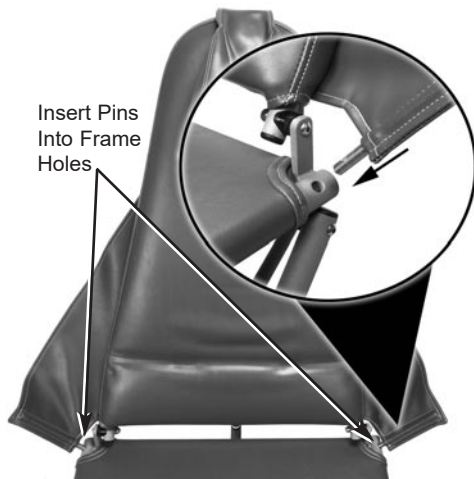

Figure 4 - Arm Sling Pin Insertion
5. Insert right and left arm sling pins into holes on the sides of the seat frame. (Fig. 4)